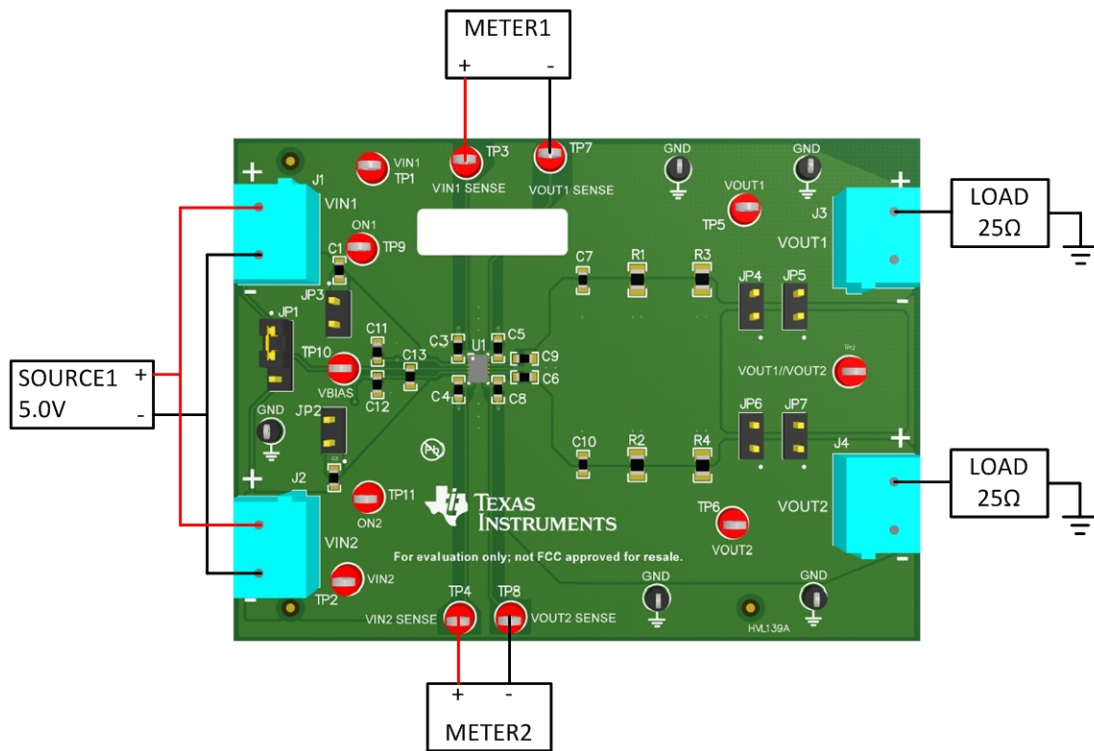

Figure 4. TPS22968NEVM Recommended R_{ON} Test Set Up
Figure 4 shows a typical setup for the R_{ON} test of the EVM. VBIAS voltage must be present for the device to function, keep this voltage level constant between 2.5 V – 5.25 V. Adding a shunt across JP1 will connect the VBIAS pin to VIN1 (pin 1 to pin 2) or VIN2 (pin 2 to pin 3). When testing with input voltages below 2.5 V, JP2 shunt must be removed and VBIAS tied to another voltage source.
1. Setup the EVM per Figure 4.